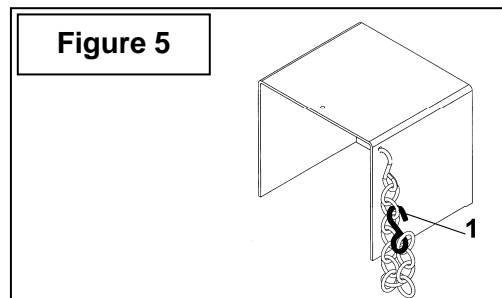

Figure 5
5. **Figure 5:** Remove the driveline support chain and hook the "S" hook (item 1) on one of the chain links (not on the other "S" hook).